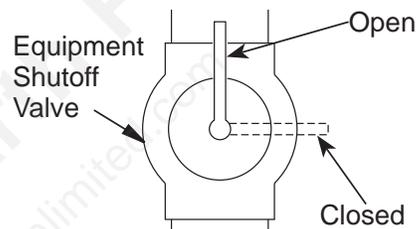

Figure 14 - Equipment Shutoff Valve
1. Close equipment shutoff valve (see *Figure 14*).
1. Open equipment shutoff valve (see **Figure 14**).
3. Close equipment shutoff valve (see **Figure 14, Page 16**).